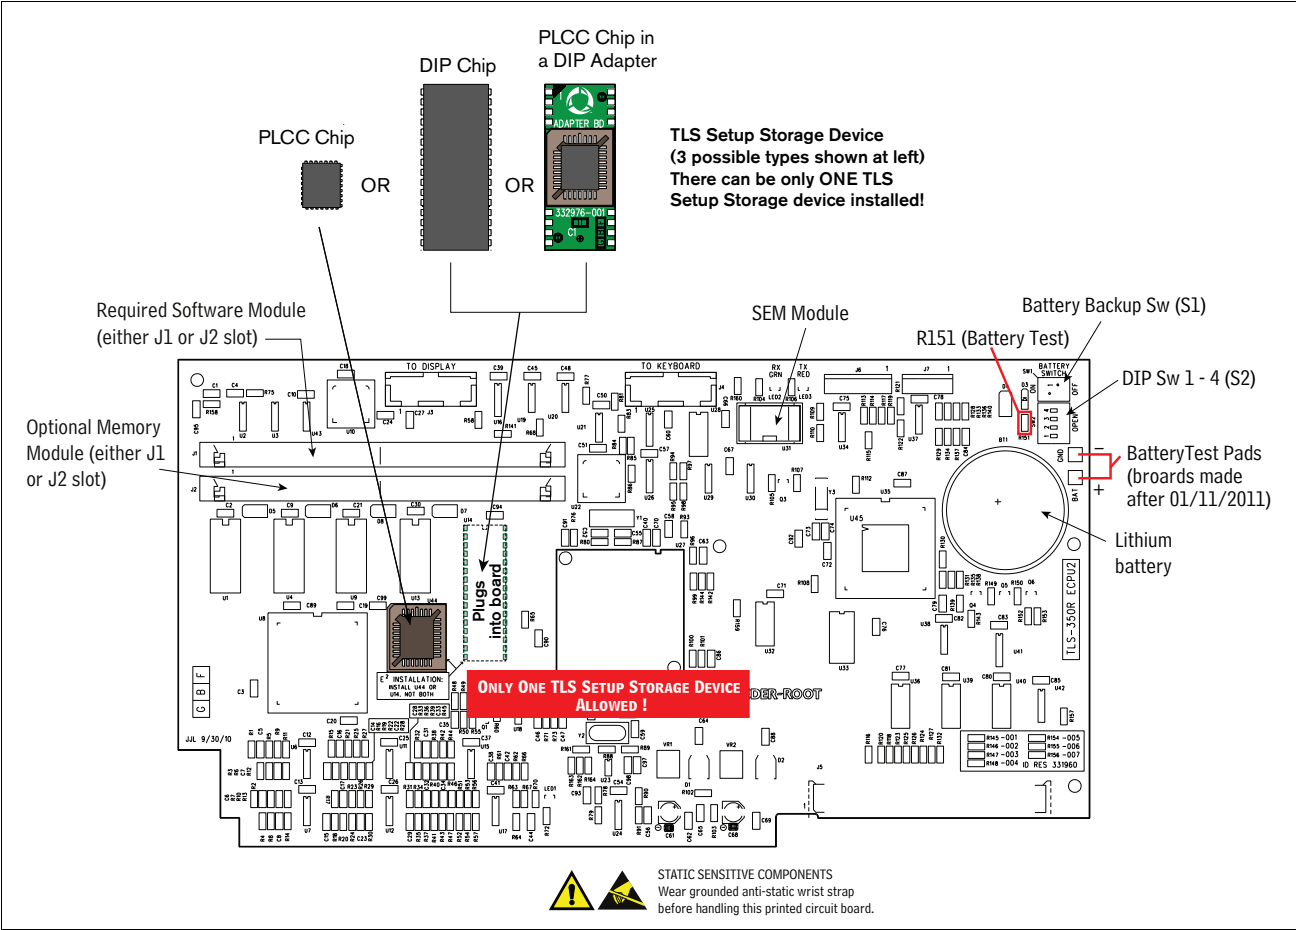

Figure 2-5. TLS-350 Consoles ECPU2 Board Layout
6. Using a Volt Meter, verify battery voltage for the applicable console by putting the positive lead on Resistor 151 shown in Figure 2-5) and the negative lead on any exposed metal of the console's chassis. Use the battery test pads for voltage measurement, if available.